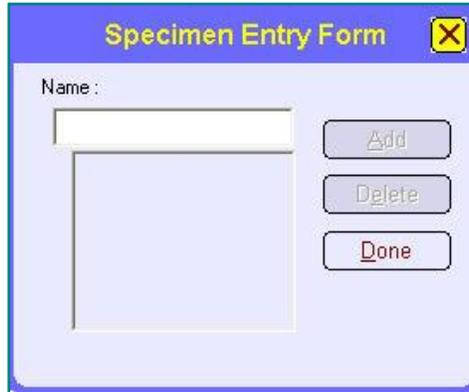

Figure 26: <Specimen Entry Form> Window
- The **<Specimen Entry Form>** window (Figure 26) will appear.